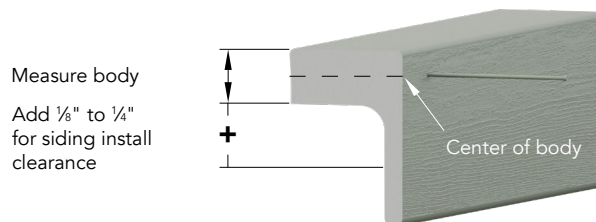

Figure 6
- Finish nail, decking screw or Cortex screw with matching color plug into the center of the main body of the trim (Figure 6).
- Target fasteners every 16" or less in the center of the trim body (Figure 6).
- Use Everlast Cortex Fastening System with color-matched plugs or 8d, 12 gauge finishing nail (Figure 6).